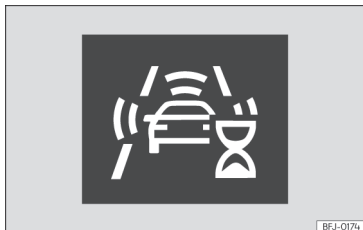

Fig. 231 On the instrument panel display: initial system self-calibration indication.
- In the first few instants of driving after switching on the ignition, due to the system's initial auto-calibration. During this period, a status icon »» **Fig. 231** is displayed.